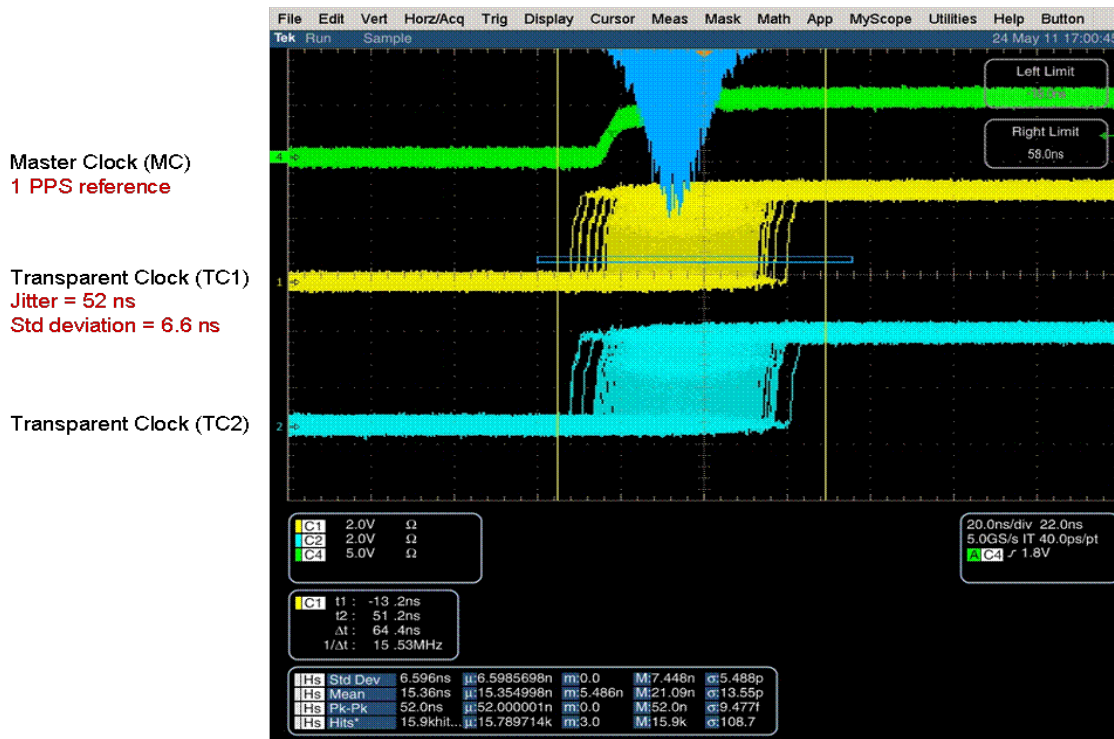

Figure 13 Sample 1 PPS Oscilloscope Capture
- A7. Typically, the 1 PPS signal from the Grandmaster or Master node is used as the trigger on channel one of the oscilloscope. Channel 2 is connected to the 1 PPS signal on one of the other KSZ8462 Evaluation boards. The 1 PPS signal is generated on the GPIO6 signal pin. If the oscilloscope has a persistence feature, it can be used to view accumulating past occurrences of the signal on channel two with respect to the 1 PPS signal on channel 1. Depending on the oscilloscope used, there is other statistical analysis that can be performed on the signals. Figure 13 illustrates an oscilloscope signal capture.